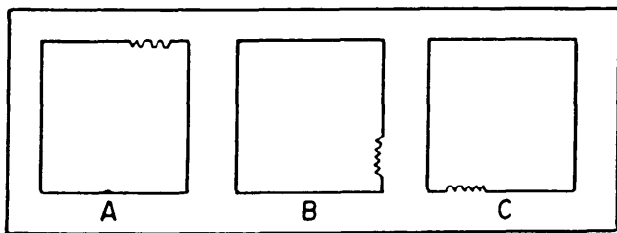

Figure 2A
IN ANSWERING QUESTION 2-35, REFER TO FIGURE 2A.
- 2-35. What segment(s) of figure 2A represent(s) a sheet of film with the emulsion facing you?